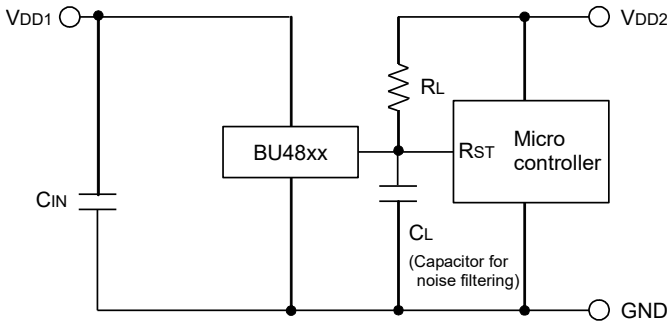

Fig. 15 Open Drain Output type
CASE1: The power supply of the microcontroller (VDD2) differs from the power supply of the reset detection (VDD1). Use the Open Drain Output Type (BU48xx series). Attach a load resistance (RL) between the output and VDD2. (As shown Fig.15)